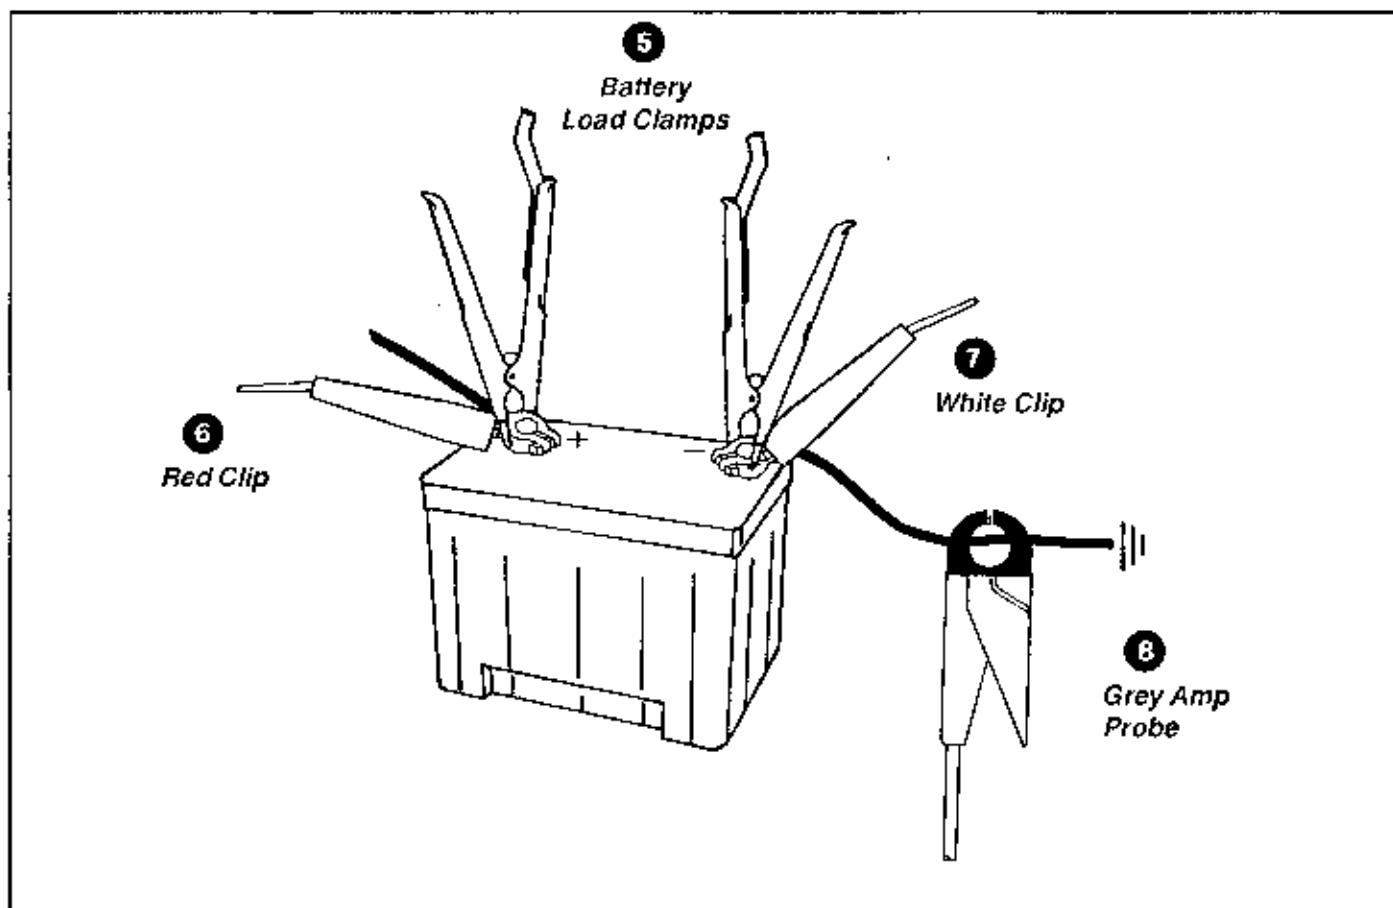

Figure 8
5. Battery Load Clamps, (see Figure 8) positive and negative, directly onto the battery posts. Provide high current testing ability and carry battery temperature sensor.
6. Red Clip (see Figure 8) to positive (+) battery terminal or (+) load clamp accessory post. Provides low voltage information.
7. White Clip (see Figure 8) to negative (-) battery terminal or (-) load clamp accessory post. MUST NOT go to any other engine ground.
8. Gray Amp-Probe (see Figure 8) around the positive or negative battery cable. Clamp must be around all wires to terminal. Disregard arrow on amp-probe casing. Supplies current information.